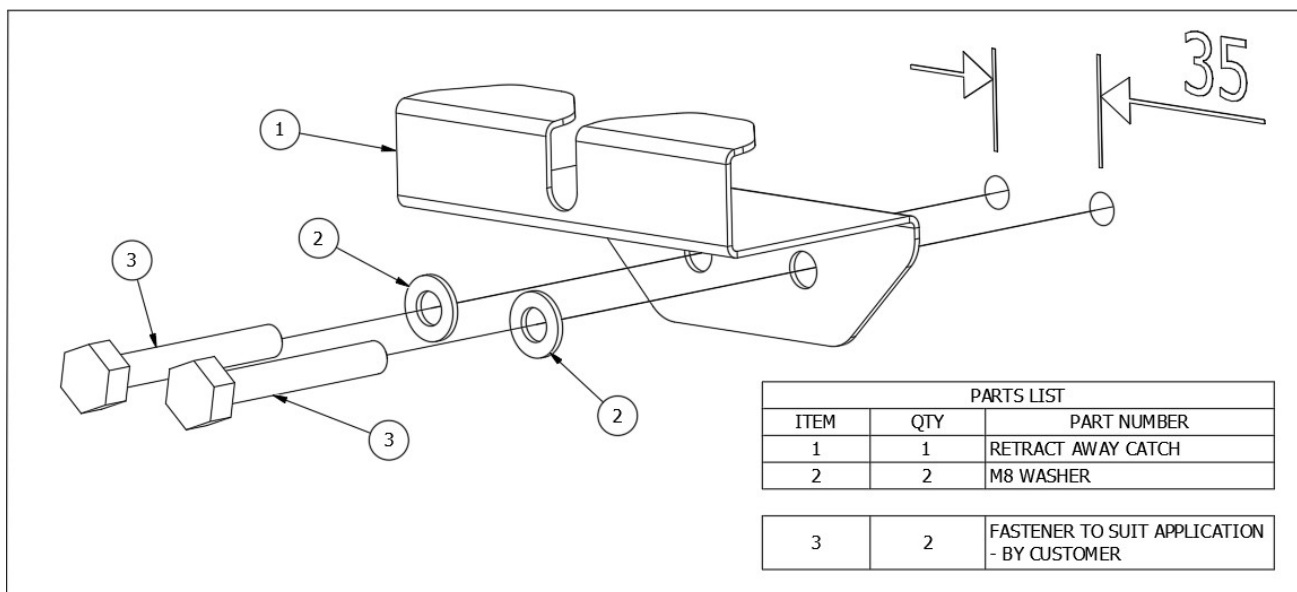

Fig 3. Catch installation to wall.
- Fit Catch (item 1 - below) using fixings that suit the application. See Fig 3. (Fixings not supplied).